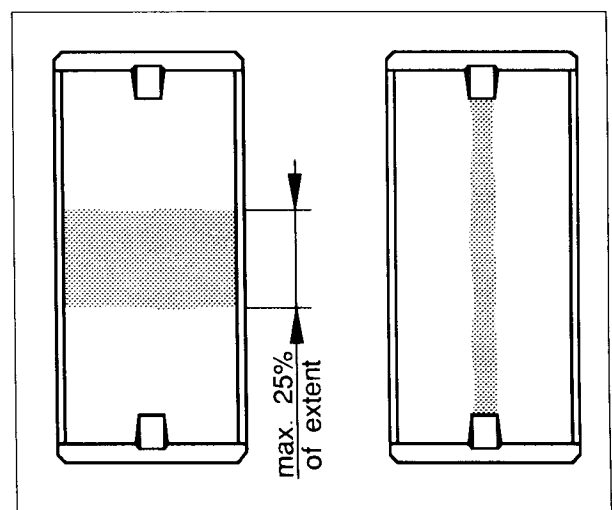

Fig. 8.
**Valuation:** The bearing can operate with wear of the below listed size, see fig. 8 og 9. If the wear limits are exceeded the bearing shells must be exchanged due to safety precautions.